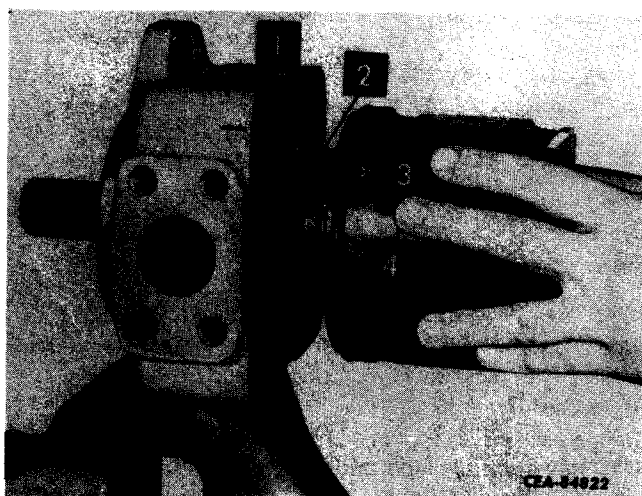

Figure 11-15
Install "O" ring and back-up ring on cartridge pressure plate hub. Install large back-up ring (3, Fig. 11-15) and "O" ring (4) on cartridge. Install small "O" ring (2) and back-up ring (1). Carefully install cartridge in pump